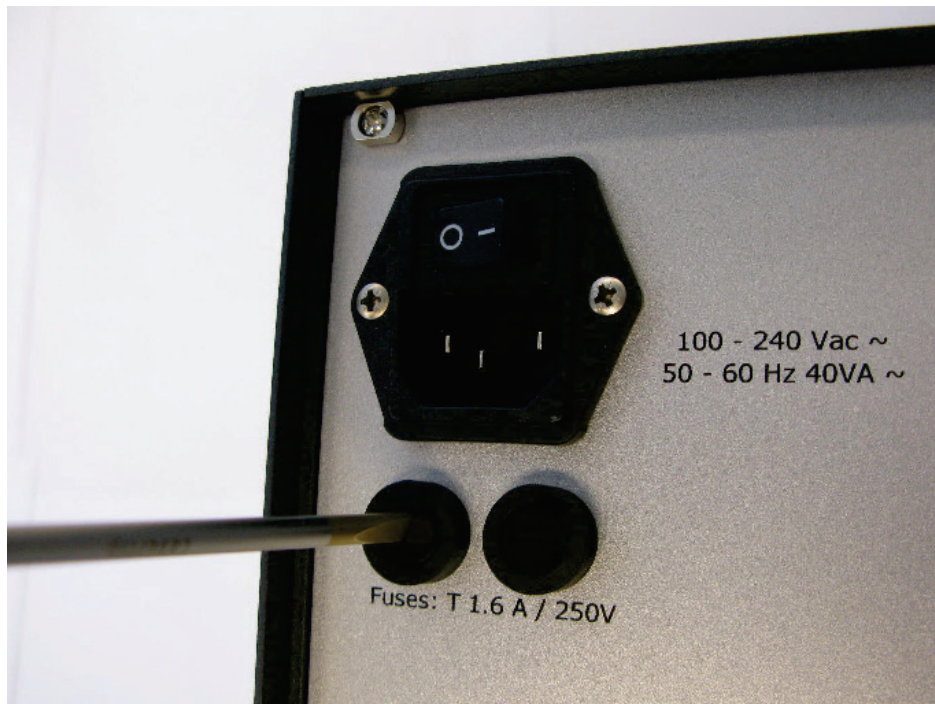

Figure 5.2 Opening the fuse holders
2. Insert a suitable screwdriver into both of the fuse holders and unscrew the fuse holders. See figure 5.2.